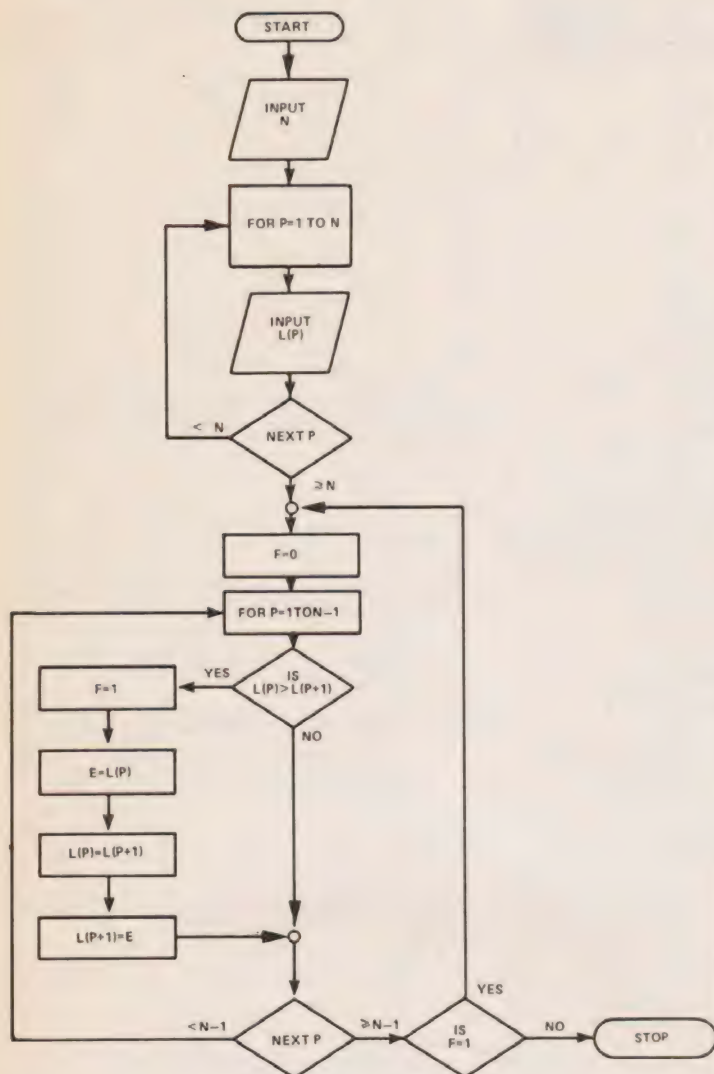

Fig.4. Flowchart for the program to perform a simple sort on any number of entries.
You should begin to see a general algorithm appearing from all of this which can be used for any length of list (N). For P=1 to N, compare L(P) with L(P+1) and reverse these if necessary, then go on to the next value of P. This FOR NEXT loop should be repeated until we manage to go once completely through the FOR NEXT loop without having to reverse any pair of numbers L(P) and L(P+1). See Fig.4 and the following program.